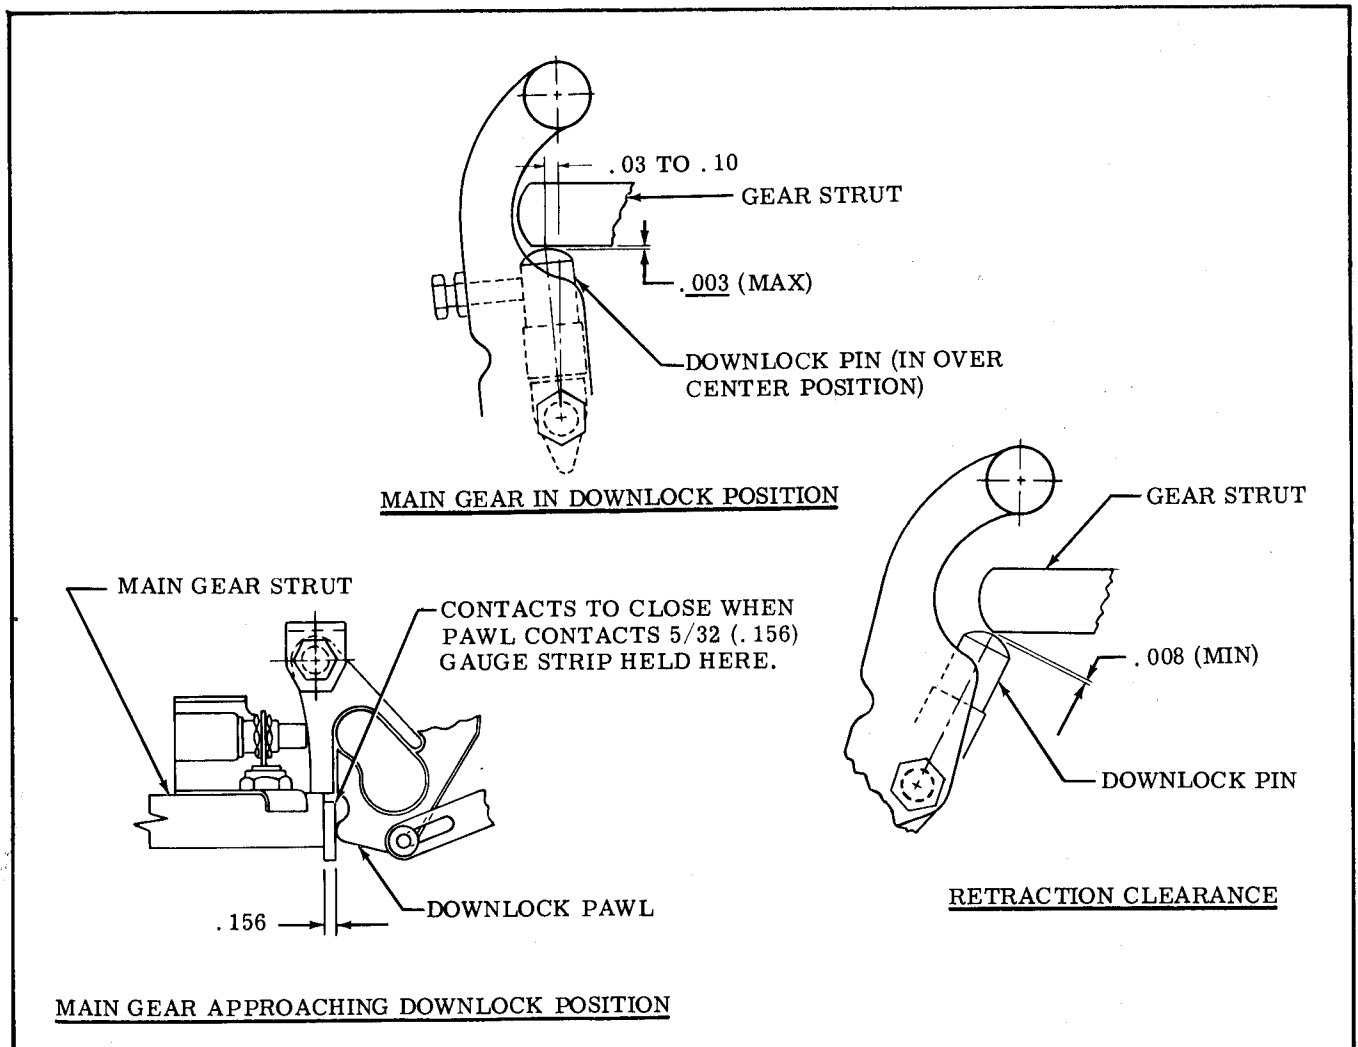

Figure 5-20. Main Gear Downlock Clearances
- a. Check that clearance between the inboard downlock pawl and gear strut is  $.003 + .004 - .000$  inches when 1500 psi hydraulic pressure is applied to the gear down port of the main gear actuator (to ensure that the gear is in the full down position). Inboard pawl clearance during the retraction cycle is shown in figure 5-20. The pawl is adjusted up or down with relation to the gear strut by inserting or removing washers on the fork-bolt that attaches the pawl to the fuselage structure.
- b. Check that outboard downlock pin reaches the overcenter position shown in figure 5-20 (.03 to .10 inch). Adjust upper stop bolt as required to obtain this position.
- c. Check over-all length of outboard downlock pin as shown in figure 5-20 (snugly against strut to .003 inch maximum clearance), with hydraulic pressure on gear. Downlock pin assembly must be removed to change over-all length.
- d. With outboard downlock pin fully retracted, check that pin clears any part of strut at least .008 inches during manual retraction as shown in figure 5-20.
5-121. RIGGING MAIN GEAR DOWN INDICATOR SWITCHES. Main landing gear down indicator switches are mounted on brackets attached to the strut and actuated by the inboard downlock pawl. Adjust switches as shown in figure 5-20.